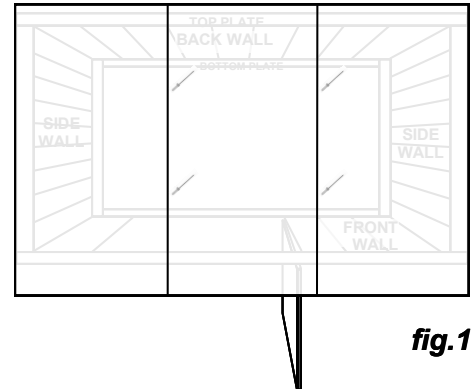

fig.1
- Check that the Top Plate is straight then nail the wall sheet to the Top Plate, two clouts per pan (see fig. 1).
- Check that the Bottom Plate is straight then nail the wall sheets to the Bottom Plate, two clouts per pan (see fig. 1).
- Rivet sheets together at overlaps with 2 x rivets per join (**fig.1**).
- Position the Roof Sheets with front overhang of 130mm at each end (**fig. 1**).